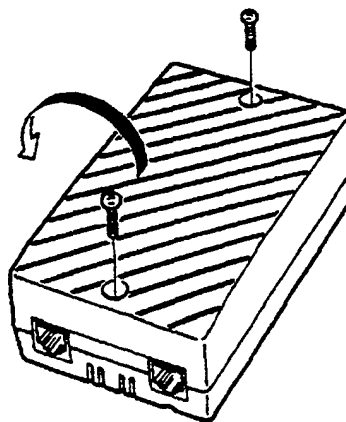

Figure 1-57 Remove Screws from the Cover of the SLT-F(1G)-() ADP
1. To open the unit, remove the two screws from the top of the SLT-F(1G)-() ADP. Refer to Figure 1-57 - Remove Screws from the Cover of the SLT-F(1G)-() ADP.